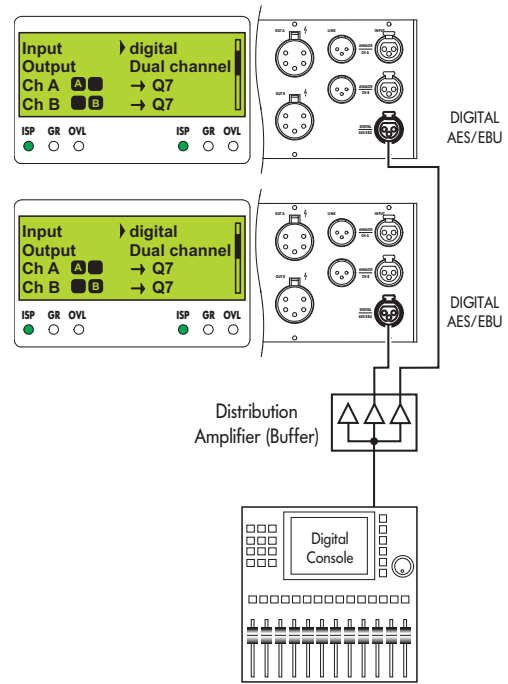

Fig. 4: AES/EBU wiring of D12 without LINK output
In absence of such an output, external distribution amplifiers (DA) have to be used. These provide the input signal electronically refreshed on multiple outputs, leading to a star topology of the network. (see section . Application examples, Fig. 4). It may be possible to use a passive splitter instead of a DA under some circumstances. (see section Passive splitters)